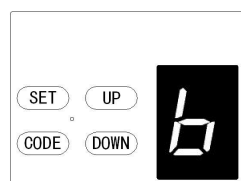

Fig.24
- 23.4 Momentarily press the “Up” button until “b” is displayed on the LED screen. (Fig.24)